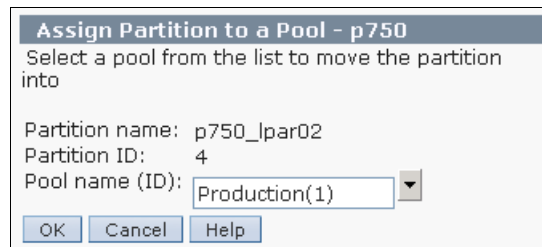

Figure 14-5 Shared-Processor Pool partition assignment
5. Select the desired pool for each partition. Figure 14-5 shows the assignment of the DB_server partition to the production pool. Assign the other partitions according to Table 14-1 on page 389.